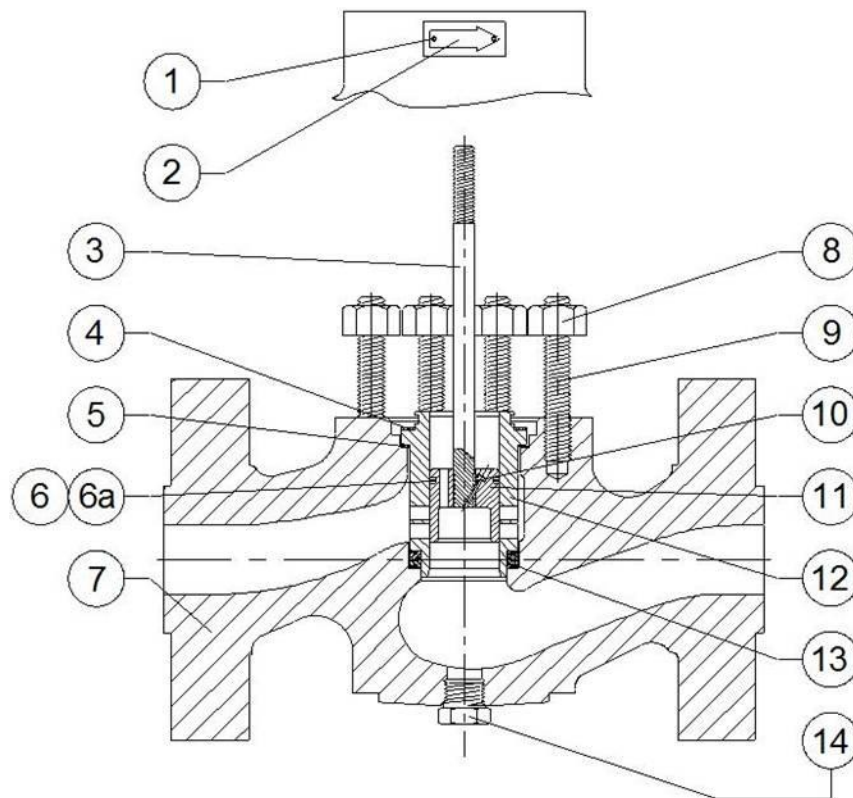
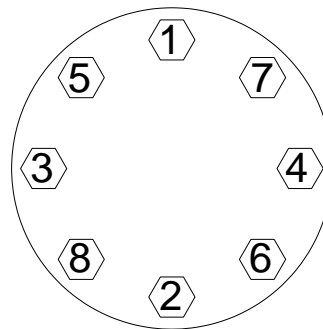

Figure 2: CVS H-900, H-1500 and H-2500 Valve Body Showing Design ED Trim
Figure 5: Typical Bolting Pattern
Body Parts (Figures 2 & 3)
These instructions refer to the replacement of single or double TFE V-Ring, Garlock and Grafoil packing. Key numbers refer to Figures 2, 3 and 4.
4. Remove the hex nuts (Figure 2, Key 8) and lift the bonnet (Figure 4, Key 17) and valve plug and stem assembly from the valve body (Figure 2, Key 7). Set those components on a clean surface and protect the gasket sealing serrations in the bottom of the bonnet. These serrations are essential for a tight seal between the body and bonnet during reassembly.
5. Remove the bonnet gasket (Figure 2 and 3, Key 4).
7. Remove the hex nuts from the valve plug stem (Figure 2, Key 3) and pull the valve plug and stem assembly out of the bonnet. Place this assembly on a protective surface.
11. Install a new bonnet gasket (Figures 2 and 3, Key 4) onto the cage (Figures 2 and 3, Key 12).
Note: The valve plug assembly of the ED and ET fit inside the cage with tight tolerances. When installing the valve plug assembly be sure not to damage the piston rings or the seal ring (Figures 2 and 3, Keys 6, 6a, 6b).
13. Apply lubricant to the body stud bolts (Figures 2 and 3, Key 9) and the hex nuts (Figures 2 and 3, Key 8). Thread the nuts onto the body stud bolts using good bolting practices. Refer to Table 3 for proper bolt torques and tighten the nuts in a criss-cross pattern (See Figure 5). When the control valve assembly reaches operating temperature, repeat the procedure. Proper tightening of the bonnet nuts ensures a positive sealing of the cage seals and the spring seal.